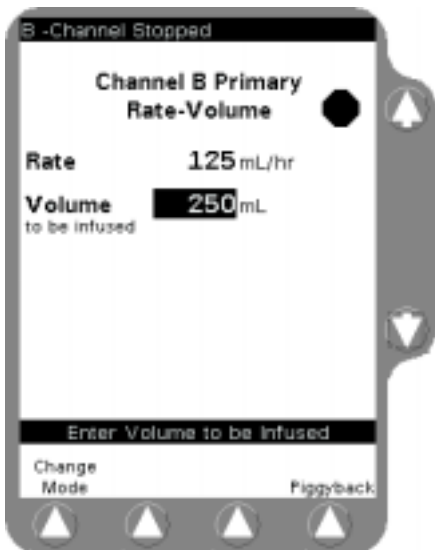

Figure 3-20 Select Piggyback
1. To program the piggyback infusion, access the Primary Programming screen for the selected channel, then press the **Piggyback** soft key (Figure 3-20).